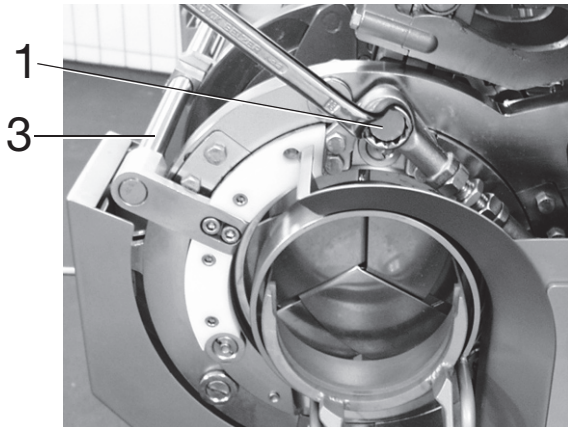

Fig. 7-20 1 Removing the fixing screw on the separator drive
- Remove the fixing screw (1, Fig. 7-20) on the separator drive (wrench size 22).
- Rotate the connecting rod (3, Fig. 7-20) into the 12 o'clock position to open the separator.